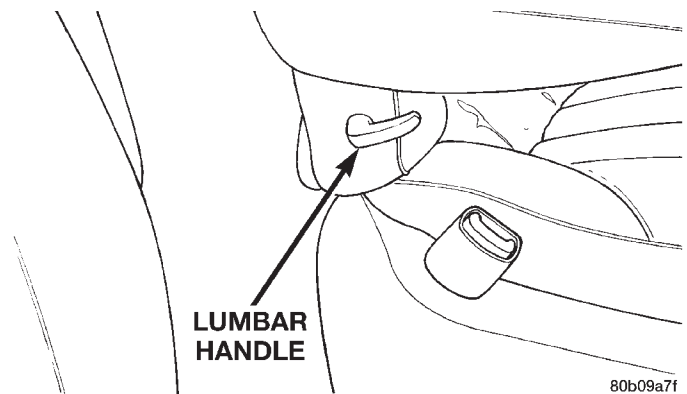

Fig. 33 Lumbar Handle
- (1) Remove screw attaching lumbar handle to seat back (Fig. 33).
- (2) Remove seat back assembly from cushion.
- (3) Detrim the seat back assembly.
- (4) Remove frame and replace.